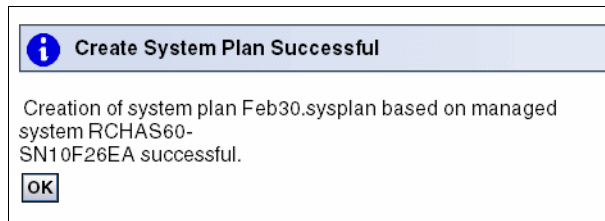

Figure 4-9 Success creating a system plan
4. Following the successful creation of a system plan, a message displays (Figure 4-9) and the system plan is now in the list of plans on the HMC. Click **OK**.